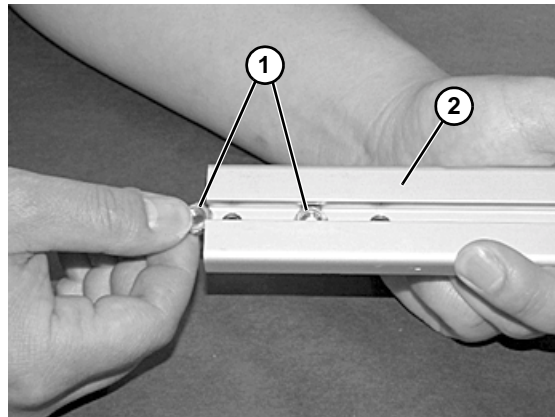

Figure 11
- Insert two hex nuts (Figure 11, item 1) into slot on each mounting bar (Figure 11, item 2).